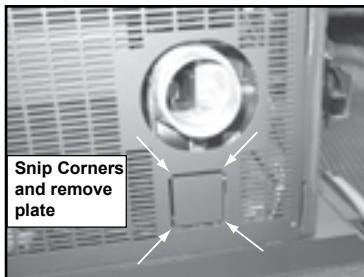

Figure 17.1
- g. Snip corners and remove plate. **Figure 17.1.**